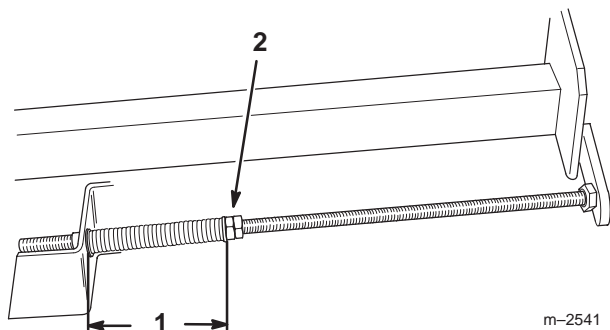

Figure 28
6. Tighten the jam nuts on the adjusting shafts until the springs are compressed to a length of 13 cm (5 inch) (Fig 28).